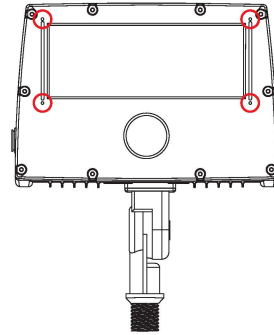

Fig. 4
WIRE GUARD INSTALLATION - Order Separately (Fig. 4)
1. Drill 4 threaded holes for M3 screws, between 0.15" - 0.19" deep (see Fig. 4 for hole locations).